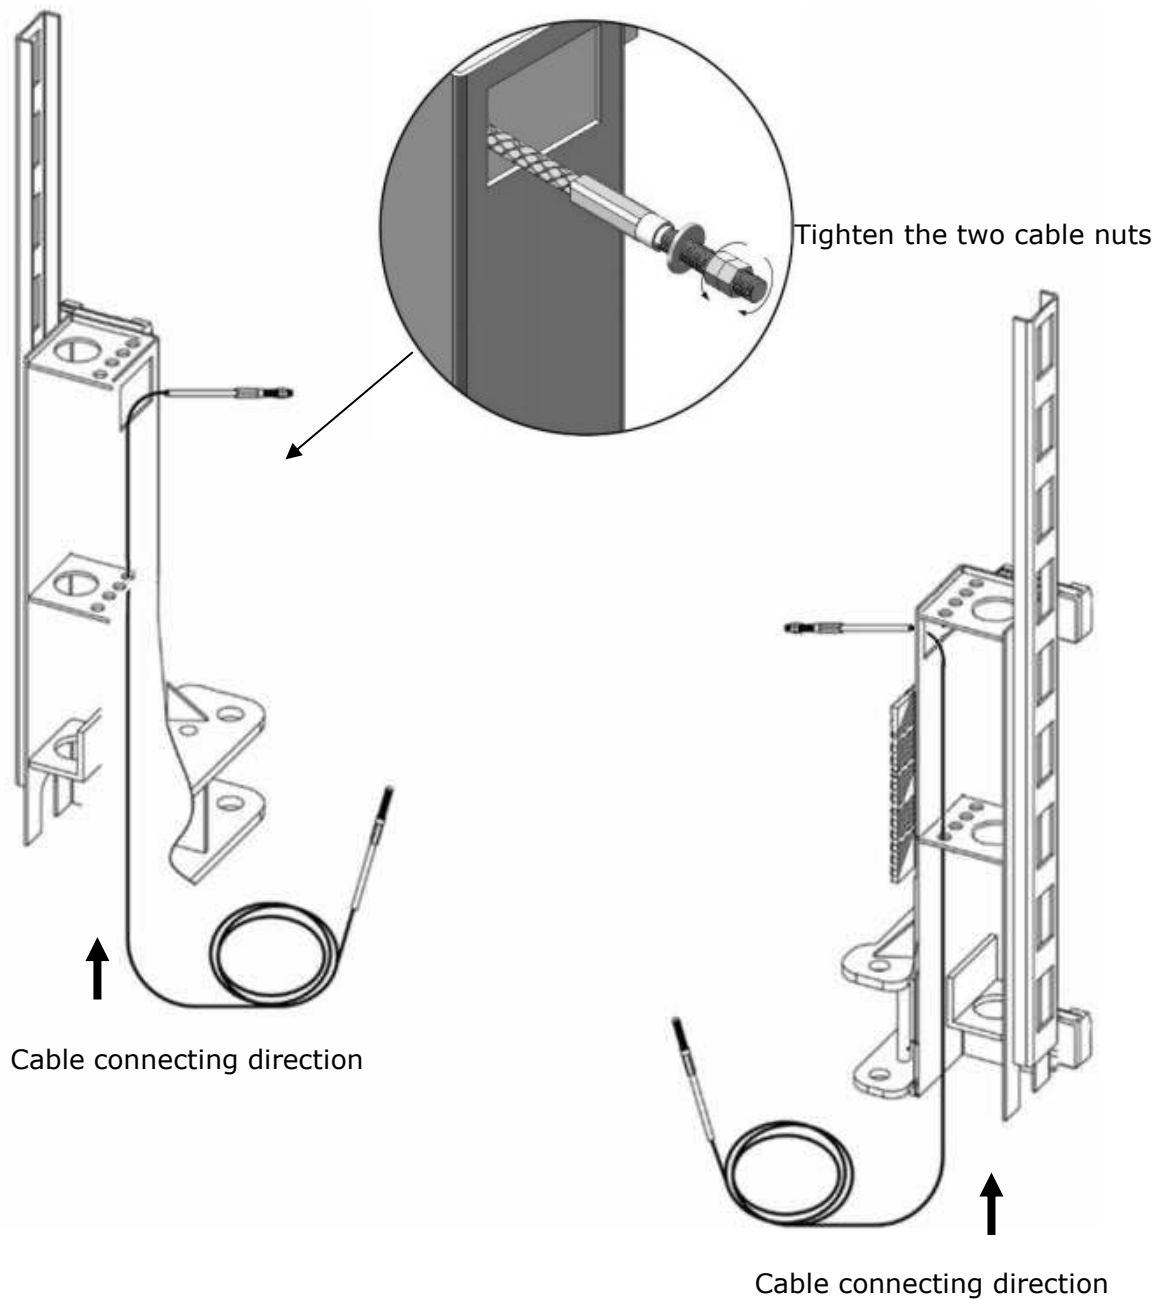

Fig.28
- 1.1 Remove the carriages plastic cover, sync cable across from the bottom of the carriages and pull it out from the hole of carriage, then tighten two cable nuts. **(See Fig. 28)**